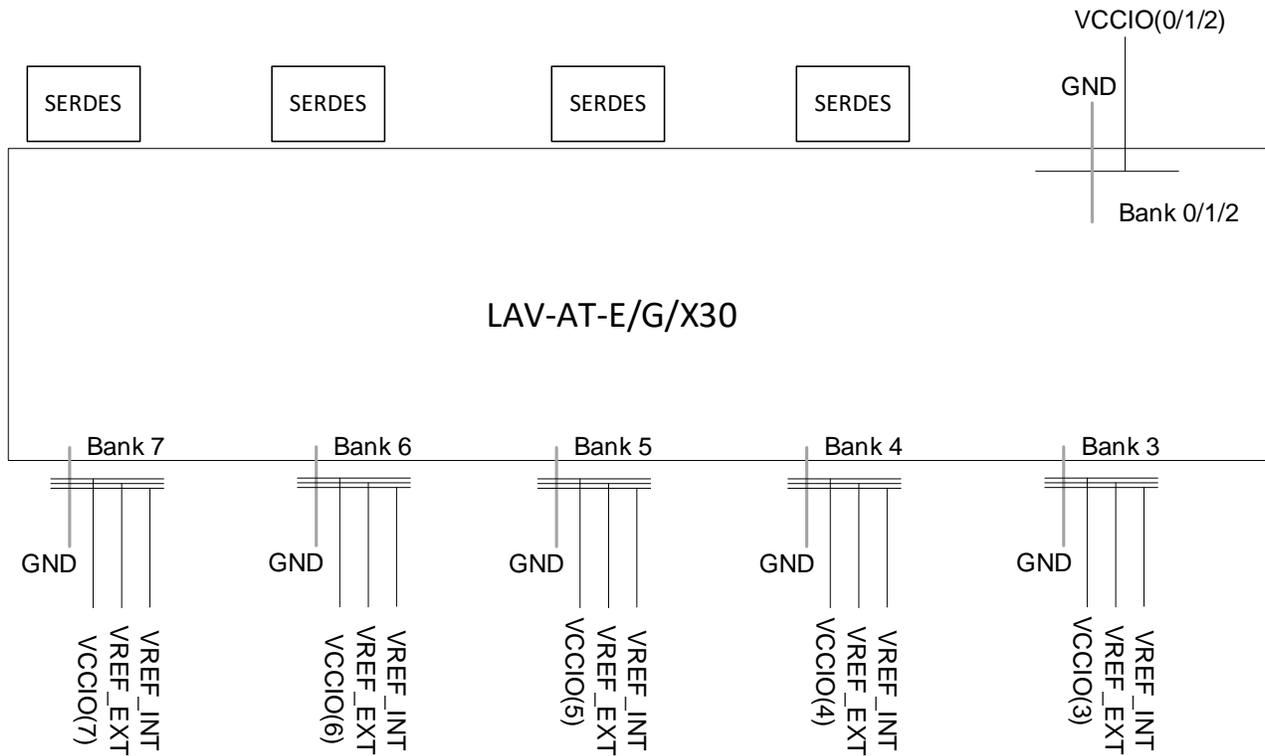
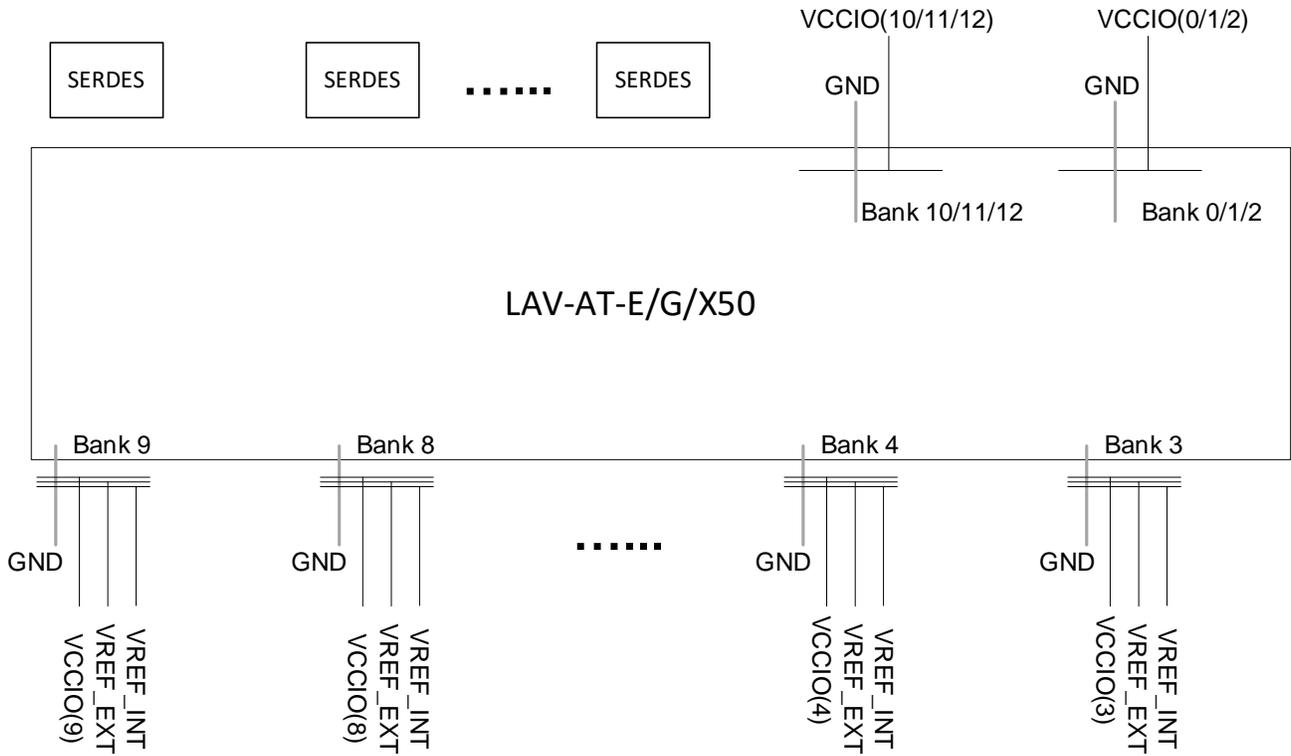
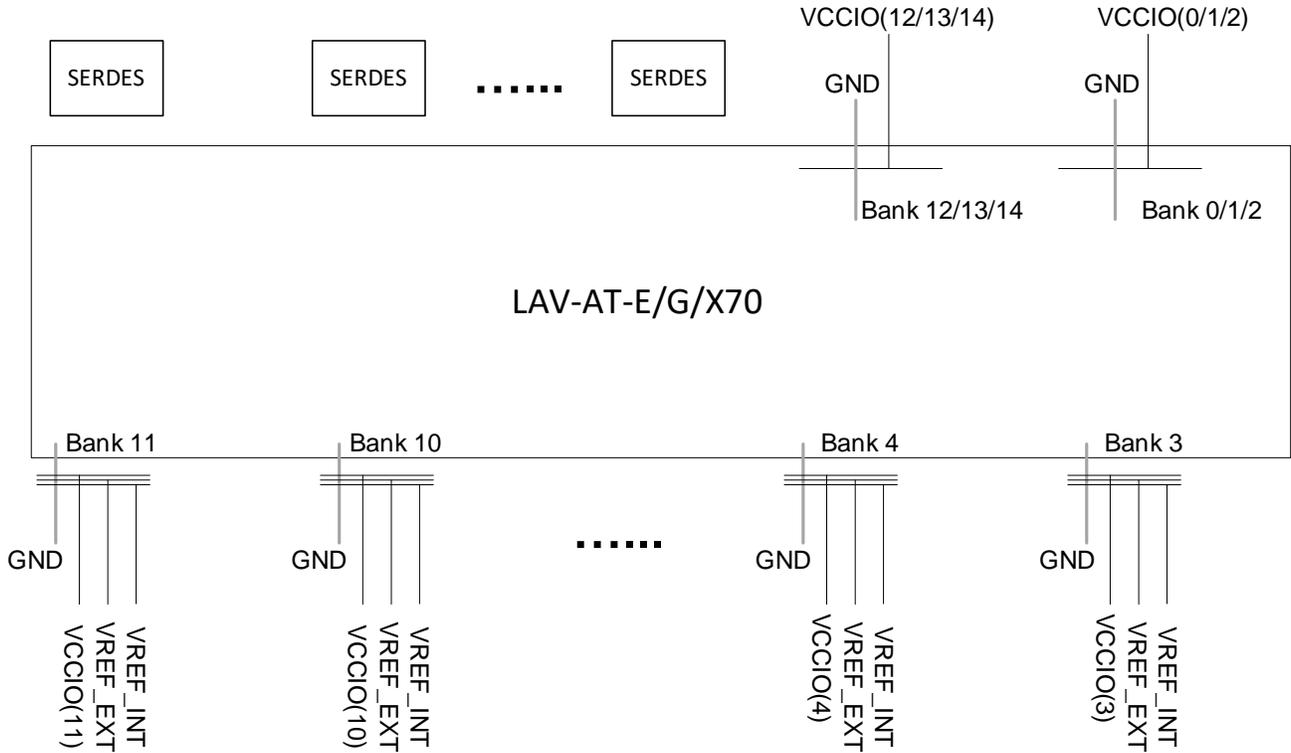

Figure 3.1. LAV-AT-E/G/X30 sysI/O Banking
Figure 3.2. LAV-AT-E/G/X50 syst/O Banking
Figure 3.3. LAV-AT-E/G/X70 syst/O Banking
LAV-AT-E/G/X70 devices have fifteen banks, LAV-AT-E/G/X50 devices have thirteen banks, and LAV-AT-E/G/X30 devices have eight banks. Top side banks are wide range (WR) I/O supporting V_{CCIO} up to 3.3 V, there is a total of 52 I/O, distributed into three WR I/O banks, LAV-AT-E/G/X70 devices and LAV-AT-E/G/X50 devices have another three WR I/O banks for a total of six WR I/O banks (104 I/O). Bottom side banks are high-performance (HP) I/O supporting V_{CCIO} up to 1.8 V, each HP bank has 52 I/O. In addition, high-performance banks support internal trainable VREF signal (VREF_INT) and external VREF (VREF_EXT). External VREF enters the bank through the configurable I/O. Figure 3.1 shows the location of each bank of the LAV-AT-E/G/X30 device, three banks on the top side and five banks on the bottom side. Figure 3.2 shows the location of each bank of the LAV-AT-E/G/X50 device, six banks on the top side and seven banks on the bottom side. Figure 3.3 shows the location of each bank of the LAV-AT-E/G/X70 device, with six banks on the top side and nine banks on the bottom side.